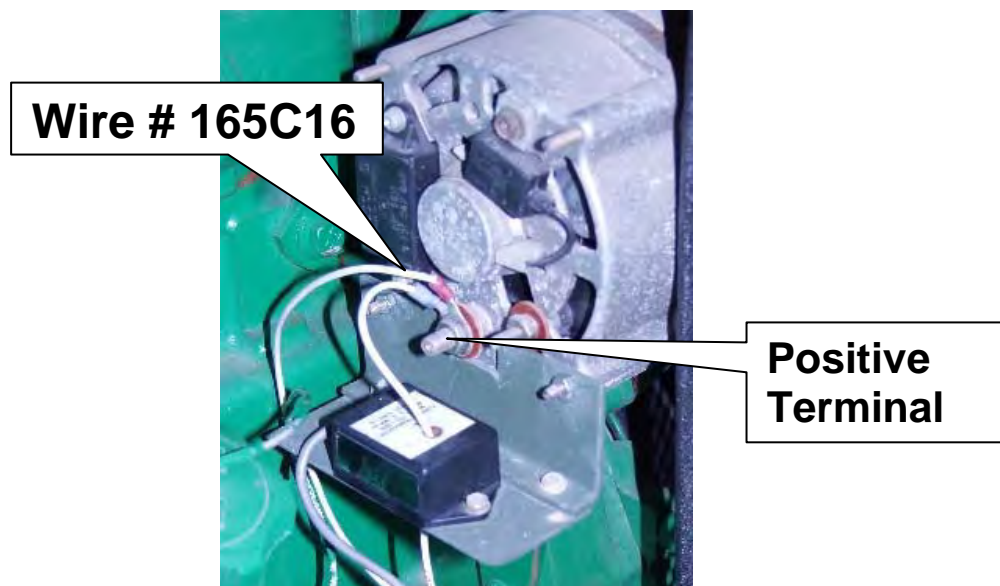

Figure 5. Control Power Hook-up
5. Connect wire # 165C16 to the positive terminal alternator as shown in figure 5.